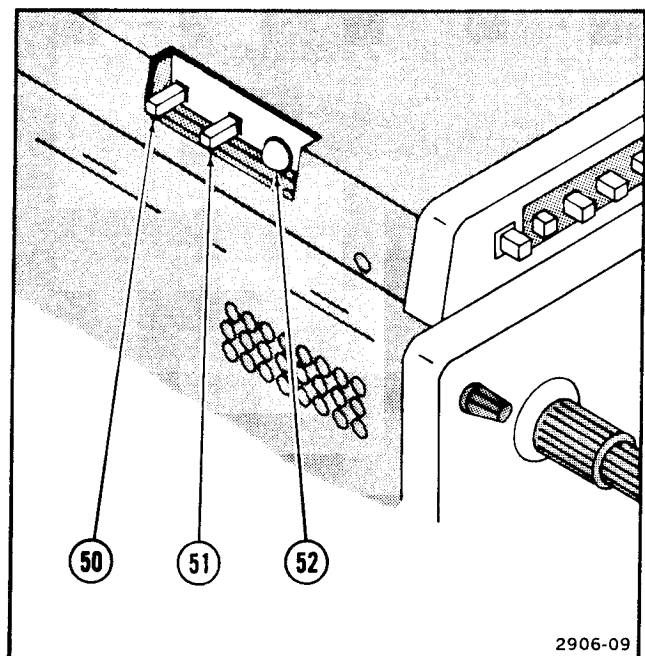

Figure 2-9. Digital storage left side panel controls and indicator.
Refer to Figure 2-9 for location of items 50 through 52.